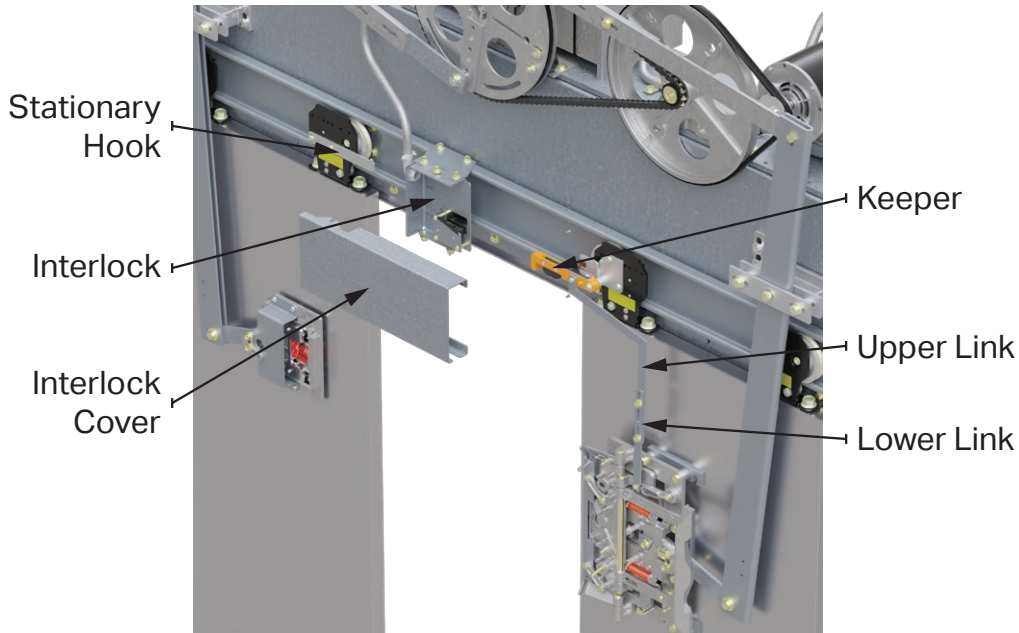

Figure 33: CP Interlock Components
1. See **Figure 33** for center-parting interlock components.
4. Attach keeper to the clutch with the upper and lower links, as shown in **Figure 33**.